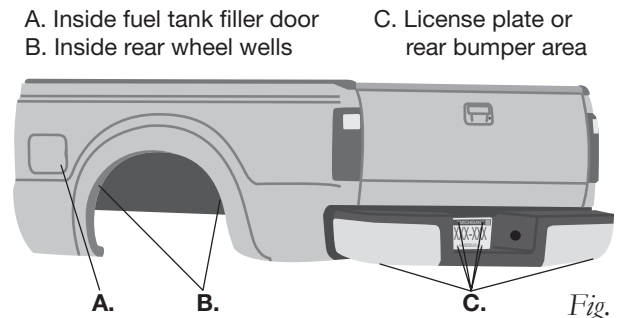

Fig. 12
5. Select a location for the Schrader valve (K), ensuring that the valve will be protected and accessible with an air hose (Fig. 12). Drill a 5/16" (8mm) hole, if necessary. Determine and cut adequate length of air line (C) to reach from the tee to the Schrader valve or from the air springs to the valve if using a dual-path installation.